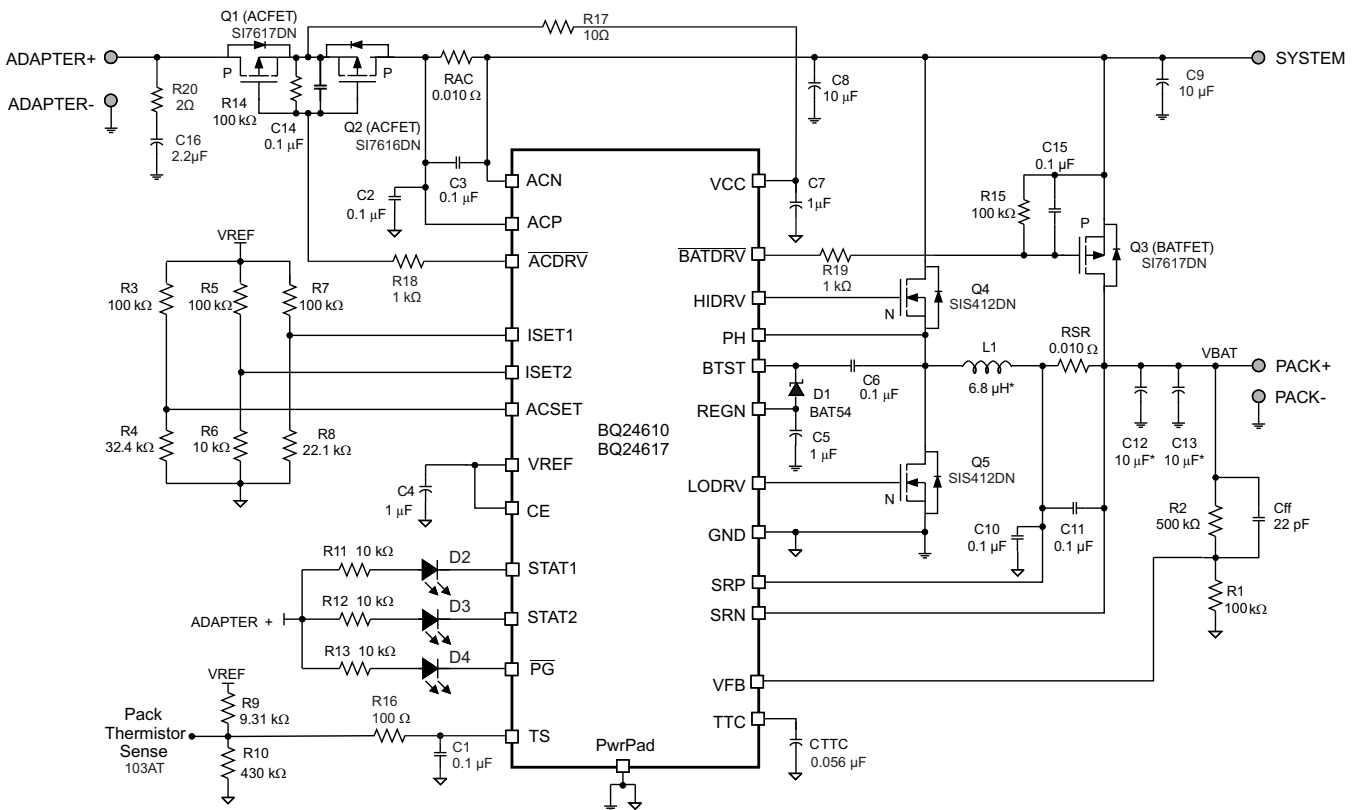

Figure 20. System Schematic with Power Path
Assuming a 103AT NTC thermistor on the battery pack as shown in Figure 20, the value  $R_{T1}$  and  $R_{T2}$  can be determined by using the following equations:
BQ24610 can be configured for Power Path applications, where input source can be used to power both system as well as charge the battery. If input source is removed, then battery is automatically connected to the system. Figure 20 shows typical schematic when using BQ24610 with Power Path, input current regulation and input reverse protection FET.
**Table 5. Component List for Typical System Circuit of Figure 20**